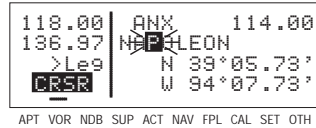

Figure 3-78
6. Select the third character, "P" (figure 3-78). Up pops Napoleon and its identifier, ANX!